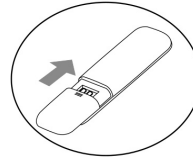

Fig.3
- Reinsert the cover into the battery compartment (see the direction of the arrow in fig.3).